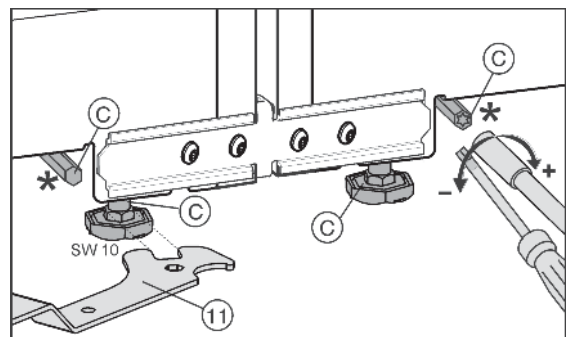

Fig. 26
The front adjustment feet can be adjusted with the supplied open-end wrench *Fig. 26 (11)* and the rear adjustment feet* with a 1/4" bit attachment.